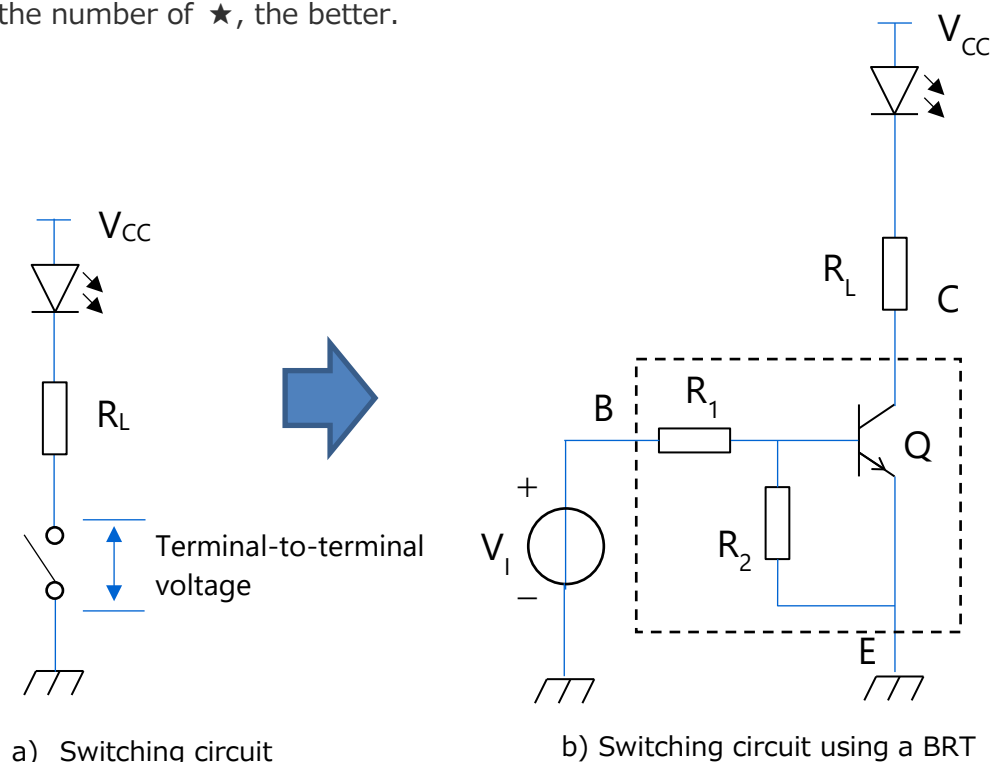

Figure 1-1 Switching circuit
Semiconductor switches come in many types, including simple on-off switches and those for the selection of a signal and electrical power. This application note discusses bias resistor built-in transistors (BRTs) used as simple on-off switches as shown in Figure 1-1. Available in a single-chip implementation, a BRT is composed of a bipolar transistor and two bias resistors for switching. In Figure 1-1(b), a BRT is enclosed in a dashed box.
In the case of an NPN BRT like the one shown in Figure 1-1(b), R_1 converts the control voltage applied to the base (B) terminal into current in order to stabilize the switching operation. In the off